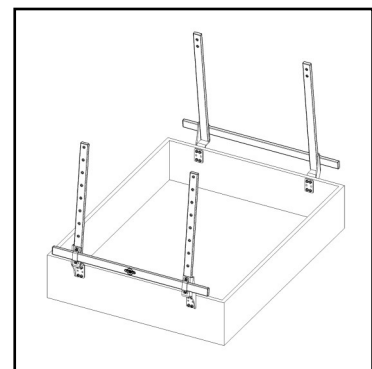

Fig. 4
4. See fig. 4. Repeat steps 2 - 3 for the other side of the UTV bed.